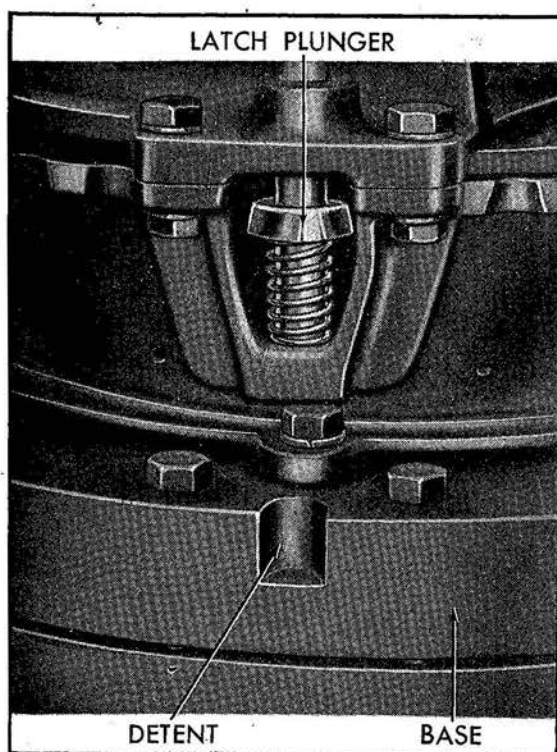

Figure 25.—Removal of Latch Plunger
7. Turn the cradle and grips until the latch plunger bracket is opposite the detent in the base, and remove the latch plunger bracket and latch plunger from engagement with the cradle bracket. (See Figure 25.)